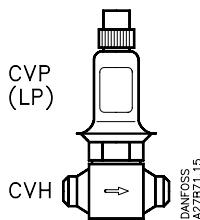

Fig. 9
Type CVP or CVPP can also be mounted separately in a valve housing, and used as a pilot valve or an independent valve. See figs. 9 and 10. If the CVP/CVPP + valve body CVH is used as a pilot valve the unit is mounted in a pilot line with flow towards the main valve. The nipple (6) on the CVPP is connected to external control pressure.